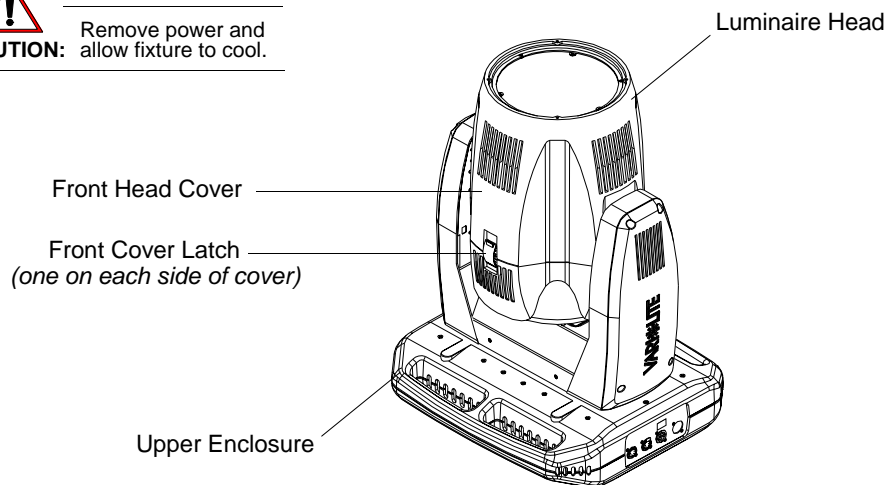

Figure 2-32: VLX Wash Luminaire
Step 2. Carefully set luminaire on upper enclosure, rotate head as shown in Figure 2-32, and engage tilt lock.